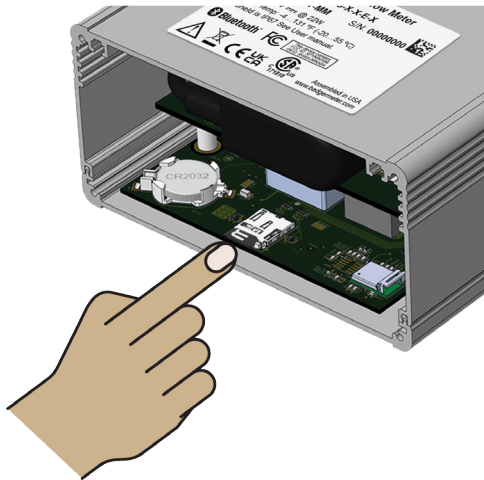

Figure 21: Remove the MicroSD card
- Remove the MicroSD card by pushing the protruding edge of the card until there is a clicking sound—ejecting the card from the tray. Refer to Figure 21 below.